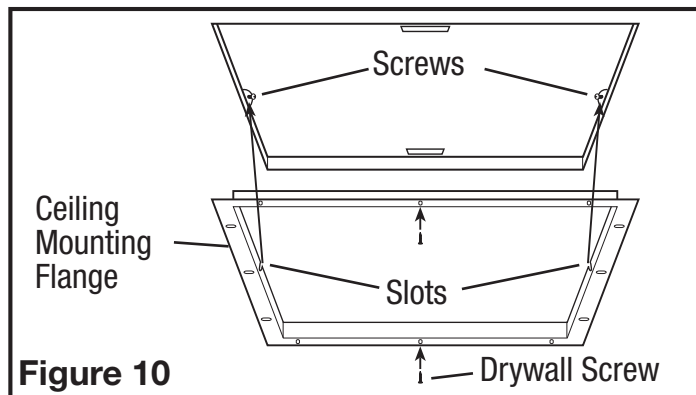

Figure 10
- Install the ceiling mounting flange to cover any gaps which exist between the housing and the finished ceiling. Remove the two screws that connect the ceiling mounting flange to the housing. Put sealant (not provided) on inside edge of the ceiling mounting flange to ensure that the flange is sealed to the ceiling. Line up the screw holes in the ceiling mounting flange with the screw holes in the inside of the housing and press flange in place so it is tight against the ceiling. Reinstall ceiling flange mounting screws inside the housing (**Figure 10**).